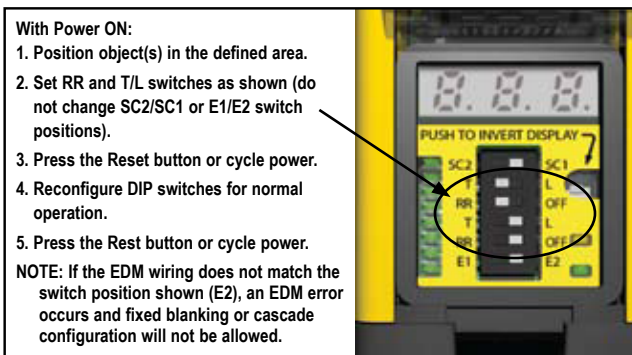

Figure 3-14. DIP switch configuration to teach fixed blanking
1. From normal operation or a power OFF condition, move the second and third DIP switches (the first RR and T/L) both to the left (T and RR position). See Figure 3-14.